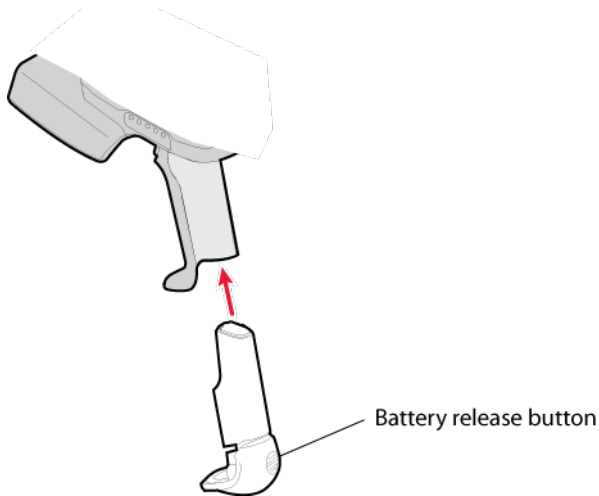

Figure 1. Battery Release Button Location on Scan Handle
1. Push in the battery release button and remove the battery from the handle (Figure 1).